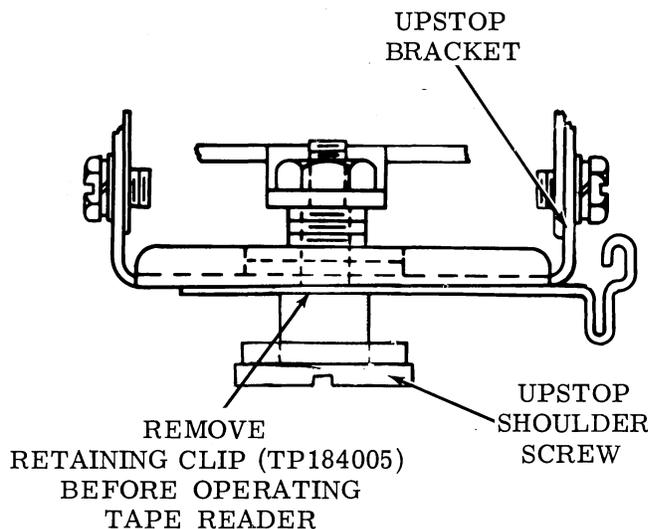

Figure 12 - Tape Reader Upstop Bracket Retaining Clip
Note: Before replacing an ASR cover, remove the retaining clip from the tape reader upstop screw (Figure 12).
5.01 A retaining ring or clip (Figure 12) is assembled (on early design units) to the upstop screw to prevent the sensing pins from being dislodged during shipment. This retaining clip must be removed before placing the tape reader in operation.